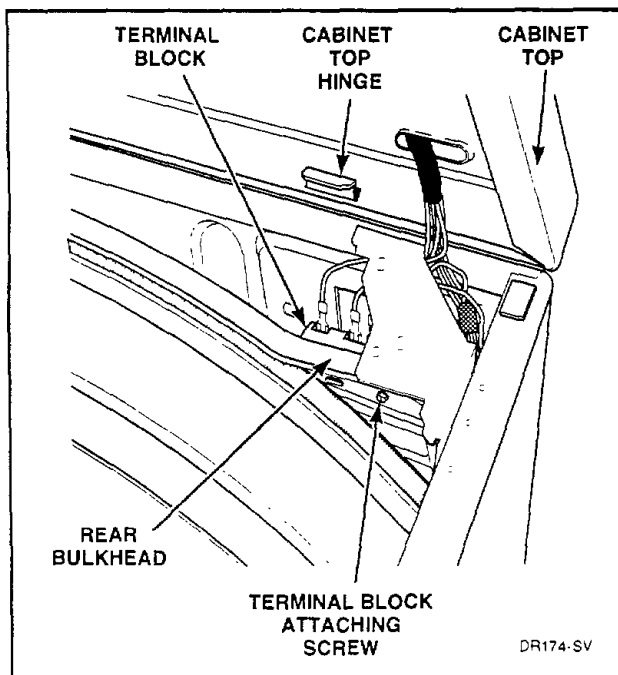

Figure 43
- (6) Lift cabinet top to a vertical position by hinging it on the rear hinges, *Figure 43*.
- (7) Remove all wires from terminal block. (Refer to appropriate wiring diagram when rewiring terminal block.)
- (8) Remove screw holding terminal block to rear bulkhead, *Figure 43*.
- j. Lift cabinet top to a vertical position by hinging it on the rear hinges, *Figure 43*.
- s. Remove two screws from each rear hinge, *Figure 43*.